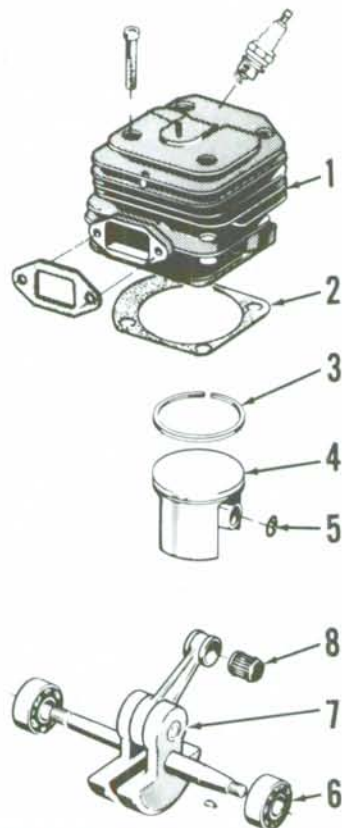

Fig. H42—Exploded view of engine components typical of all models.
**PISTON, PIN, RINGS AND CYLINDER.** To disassemble, remove cylinder cover and air filter assembly. Disconnect carburetor linkage and fuel line. Remove screws attaching muffler bracket to crankcase. Remove cylinder mounting screws and lift cylinder with muffler and carburetor from crankcase. Remove piston pin retaining rings (5-Fig. H42) and push piston pin out of piston. Remove carburetor and muffler from cylinder.
Piston must be installed with arrow on piston crown pointing toward exhaust port. Refer to Fig. H43. A locating pin is present in piston ring groove to prevent piston ring rotation. Be sure ring end gap is positioned around the locating pin when installing cylinder. Lubricate roller bearing (8-Fig. H42) and piston with oil before installing cylinder. Tighten cylinder mounting screws evenly to 8-10 N·m (71-88 in.-lbs.).